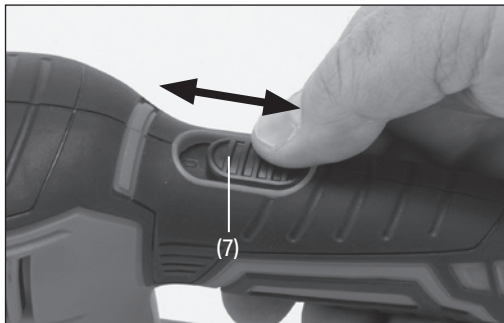

Fig. 4
7.1 Switching ON/OFF (Fig.4)
- Then move the switch (2) to 'I/ON' to turn on the sander.
- To stop the sander, move the switch (2) to the 'O/OFF' position.